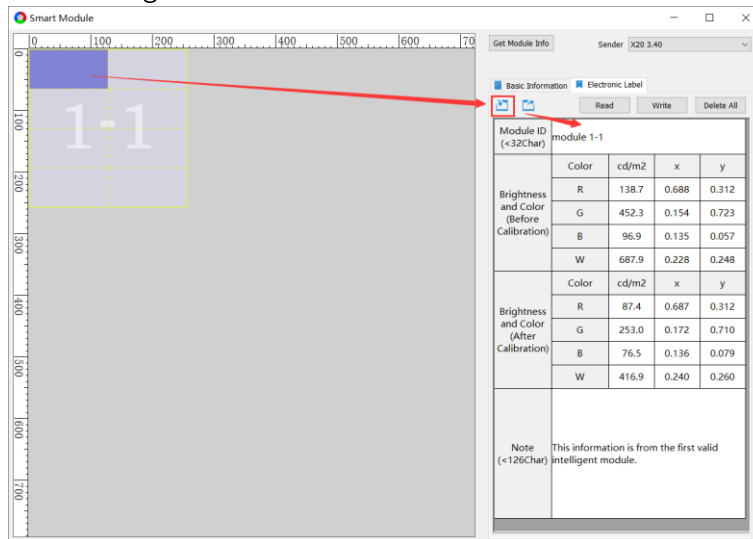

Fig 11.3.2 Import electronic labels
Step 2: Click the **Import** icon above the table or enter the label information directly in the table, as shown in Figure 11.3.2.